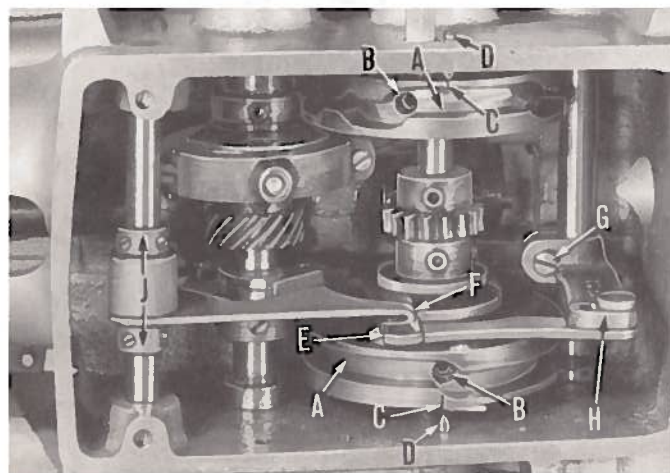

Fig. 4
Turn pulley in operating direction until first screws in cams (A, Fig. 4) coming into view are accessible, and loosen these two screws. Continue to turn pulley in operating direction until machine is again in stop position and screws (B) are in view.
The button clamp lifting link (E, Fig. 4) is in proper position, when, with the machine in stop position, the lip on the fork lever (F) is engaged in the slot of the link.